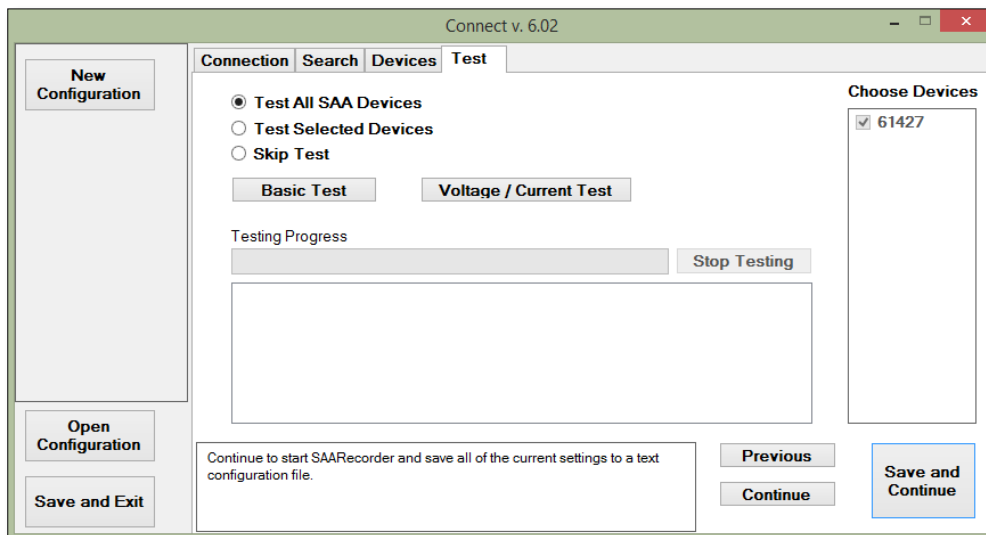

Figure 6.16: 'Device Test' window.
3. The 'Test' tab runs Basic and Voltage/Current tests on the devices before starting SAAREcorder application. The window should look similar to **Figure 6.16**. Both tests can be performed if desired.